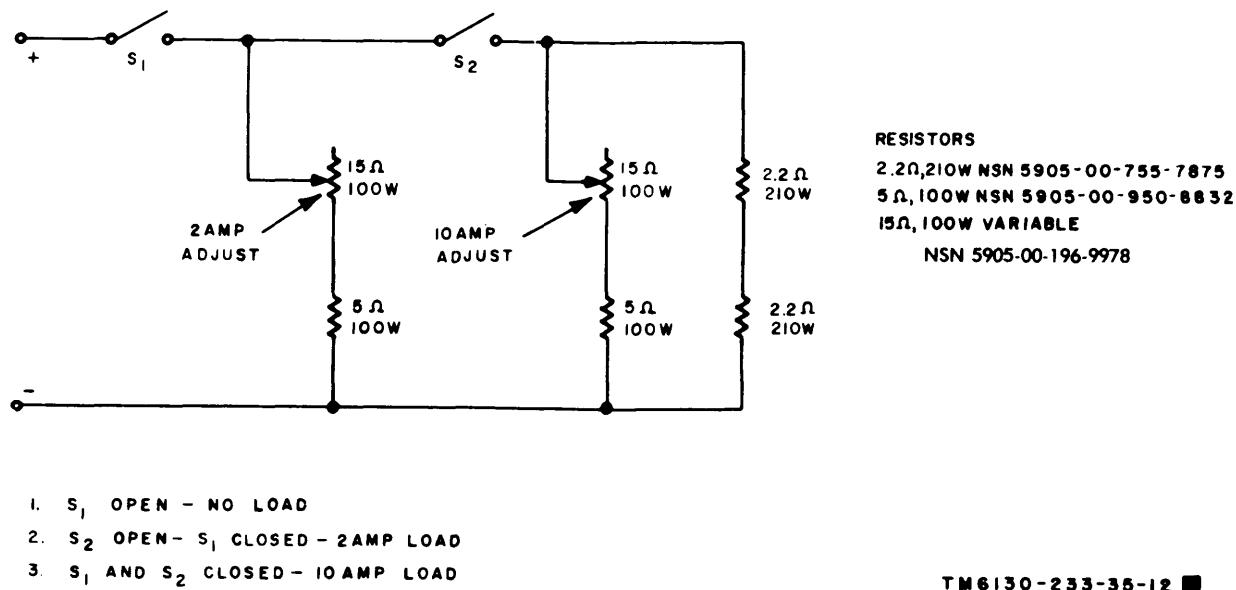
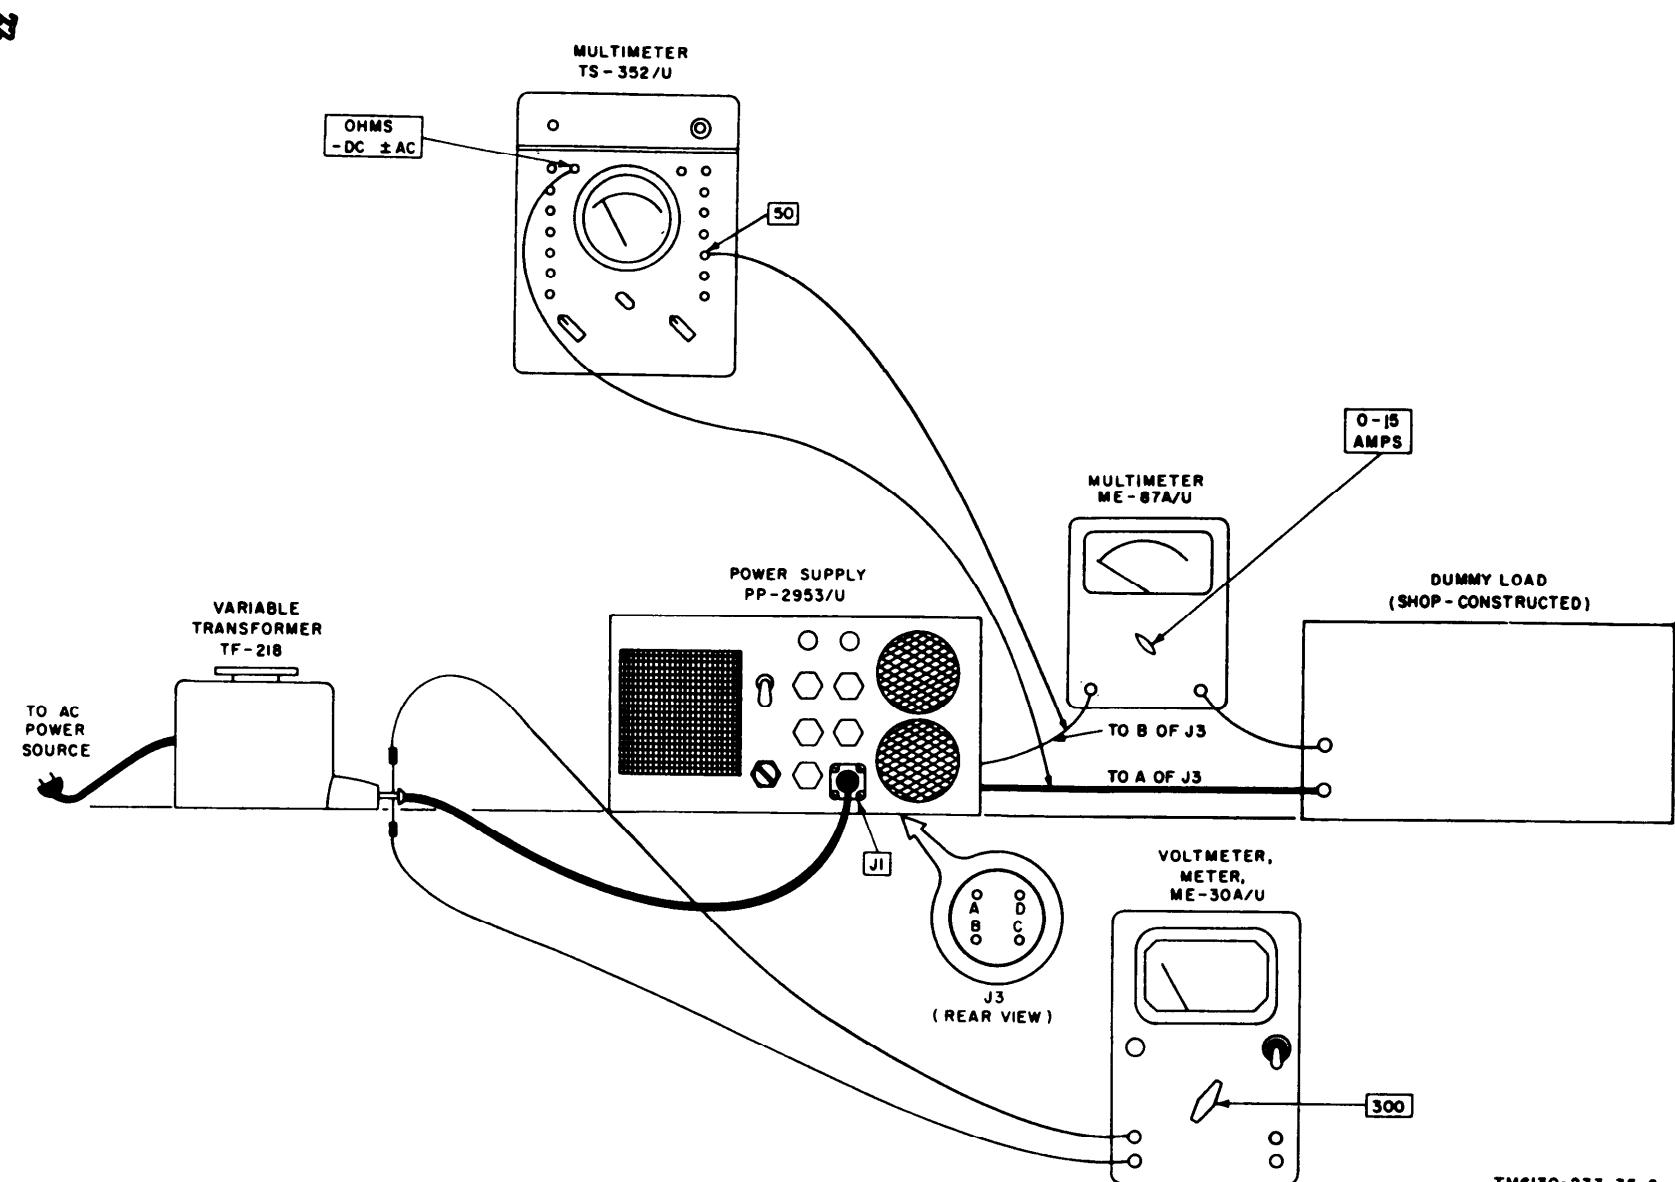

Figure 3-2. Dummy load, schematic diagram.
Figure 3-3. Power Supply PP-2953/U, test setup.
A shop-constructed dummy load schematic diagram is shown in figure 3-2. With the dummy load connected as shown in figure 3-3, and the power supply connected to the proper ac source, close S1 and open S2. Set the 2-ampere adjust rheostat for a 2-ampere indication on the ME-87A/U. Leave S1 closed and close S2, and set the 10-ampere adjust rheostat for a 10-ampere indication on the ME-87A/U.
b. Test Connection and Condition. Connect the equipment as shown in figure 3-3.
a. Most of the tests will be performed under the conditions given below and illustrated in figure 3-3. Testing will be simplified if connections and panel control settings are made initially and modifications
b. Connect the equipment as shown in figure 3-3. In addition, connect the output of the power supply to channel A or B of the oscilloscope.
Connect the equipment as shown in figure 3-3 and set the controls according to paragraph 4-4b.
Connect the equipment as shown in figure 3-3.
Set the controls according to paragraph 4-4 b and connect the equipment as shown in figure 3-3, except disconnect the ME-30A/U, set its range selector switch to 1, and connect it across the TS-352B/U.
Connect the equipment as shown in figure 3-3 and set the controls according to paragraph 4-4b. Connect the vertical input of the AN/USM-81 across the output of the power supply.